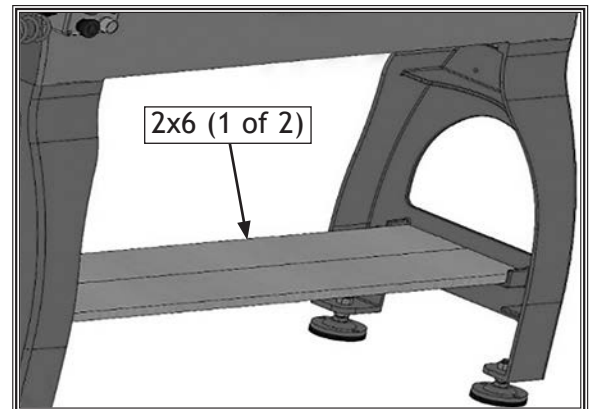

Figure 15. Boards positioned in brackets in shelving option one.
1. Set two 2x6 boards side by side in upper brackets of leg castings (see **Figure 15**).